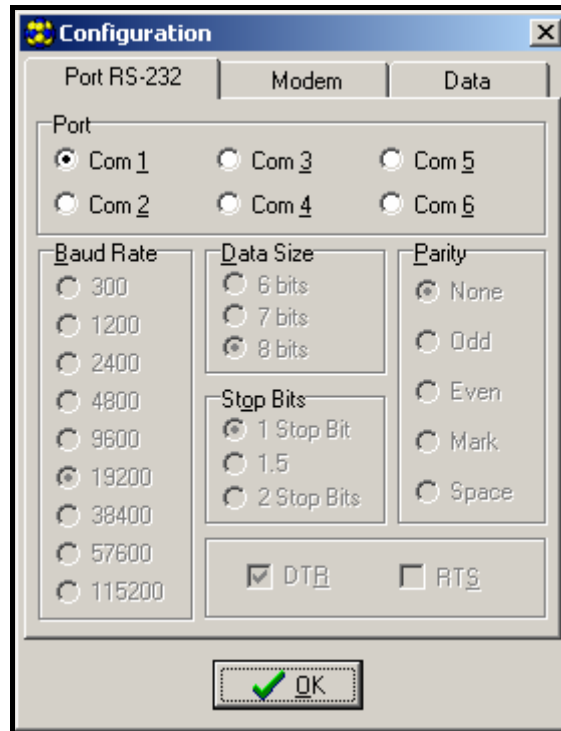

Figure 10.
3. Enter the option of module communication settings by clicking on the  icon (or through the **Communication** → **Configuration** menu) and select the port through which the computer connects with the module RS-232 port (see figure 10).